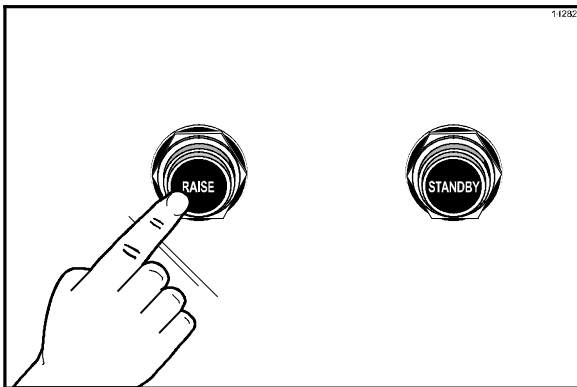

Figure 79
1. Raise the upper platen to the OPEN position by pressing the red RAISE button. (See Figure 79.)